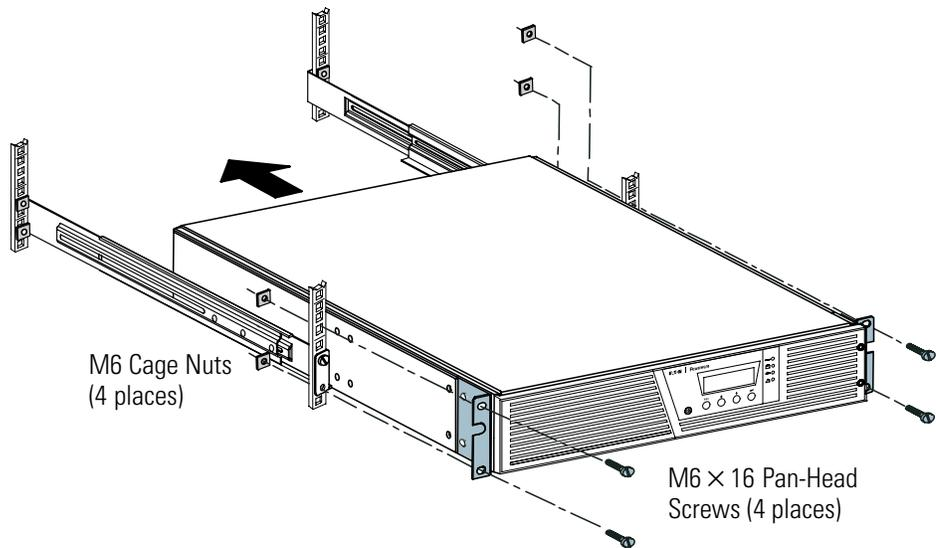

Figure 7. Securing the Front of the Cabinet
12. Secure the front of the UPS to the rack using two M6 × 16 pan-head screws and two M6 cage nuts on each side (see Figure 7). Install the bottom screw on each side through the bottom hole of the mounting bracket and the bottom hole of the rail.